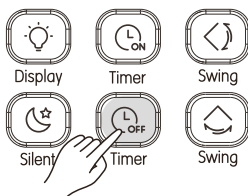

Figure 3.18
- ② Press  or ▲, ▼ to adjust the timer settings;
- ③ Once the adjustment is done, the timer information is sent to the indoor unit.
- ① Press  (see Figure 3.18), and the remote controller will display "Timer Off", and "0.0H" will appear in timer area. Adjust the Timer Off settings now;